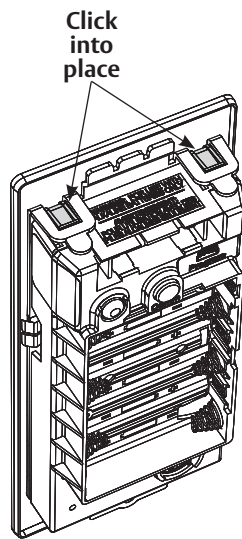

Fig. 25
- b. Ensure proper alignment of board-to-board connectors while pivoting controller toward door until two tabs on top click securely into place on mounting plate. (Fig. 25)